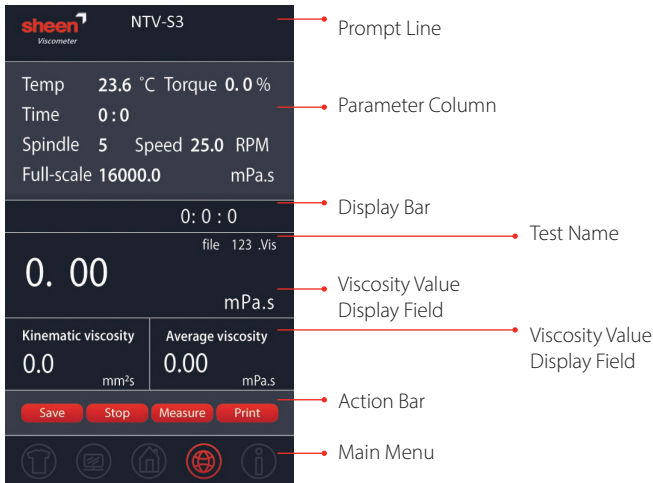

FIG. 10
8.2 Click the “viscosity” icon after parameter setting, as FIG. 10.